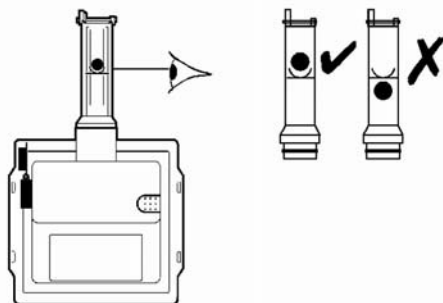

FIG. A-1
2. Insert the AFI-200 into the air outlet on the top of the Air Mate™ PAPR. (Fig. A-1).